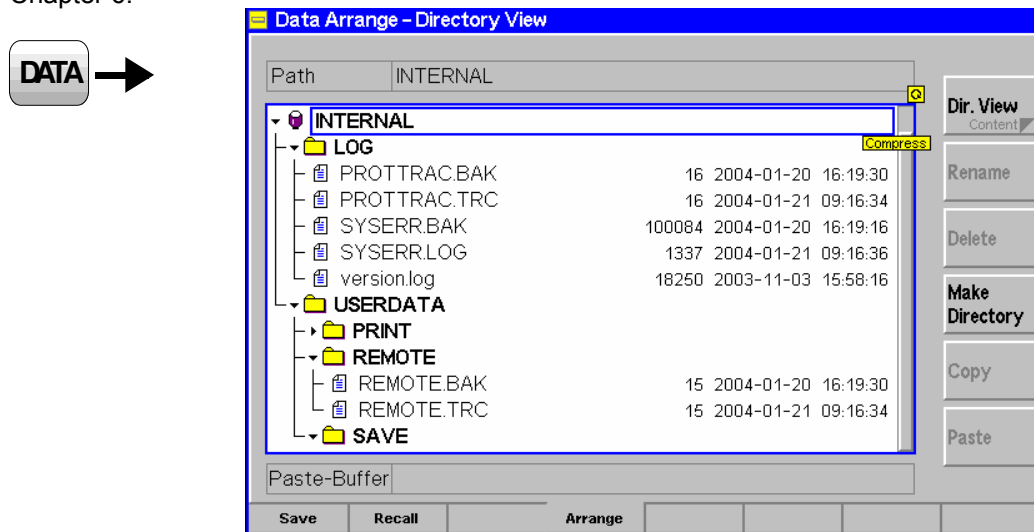

Fig. 4-16 Data – Arrange menu
*Dir. View/Content* toggles between the directory view (see Fig. 4-16 above) and the overview of function groups and test modes contained in a configuration file (\*.SAV). The *Content* view is available for configuration files only: